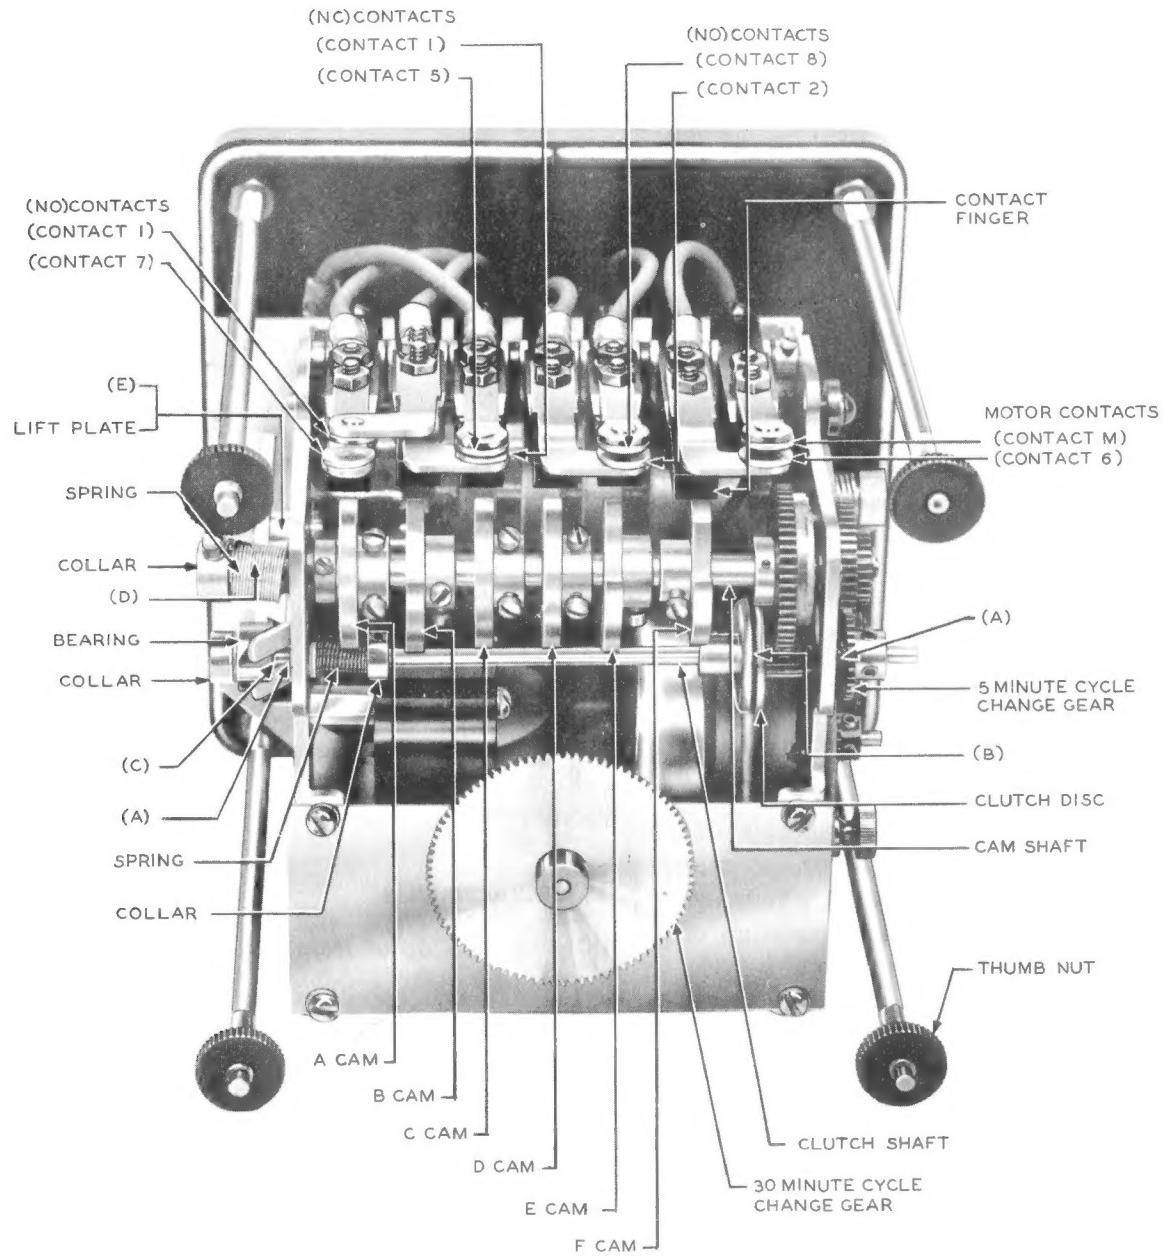

Fig. 1 – KS-15513 Time-delay Relay
- (2) Fig. 1(A) — Clutch shaft at bearings (two points).
- (3) Fig. 1(B) — Clutch shaft at right-hand clutch disc.
- (4) Fig. 1(C) — Clutch shaft at clutch bearing.
(6) Fig. 1(D) — Camshaft at left bearing.
(7) Fig. 1(E) — Lift plate at left bearing.
2.05 Contact Separation: Fig. 1 — The separation between any pair of normally open (NO) contacts (contacts 1 and 7 and contacts 2 and 8) or between any pair of normally closed (NC) contacts (contacts 1 and 5) or motor contacts (contacts 6 and M) that are opened when the associated cams trip the associated contact fingers shall be